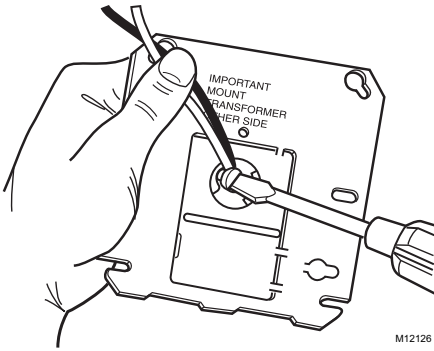

Fig. 3. When screw is tightened, clamp holds plate on transformer.
5. While holding the plate in place, tighten the set-screw securely against the rim of the hole. See Fig. 3. Avoid damaging the leadwires with the screwdriver.